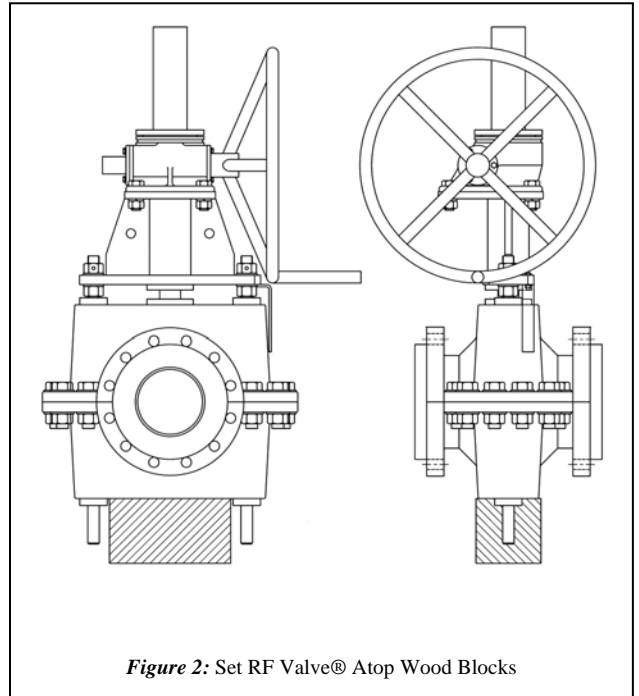

Figure 2: Set RF Valve® Atop Wood Blocks
STEP 1: Have a feeler gauge handy. In addition the RF Valve® must be taken out of the pipeline. If possible, it is recommended to put the RF Valve® up on wooden blocks (Fig. 2)